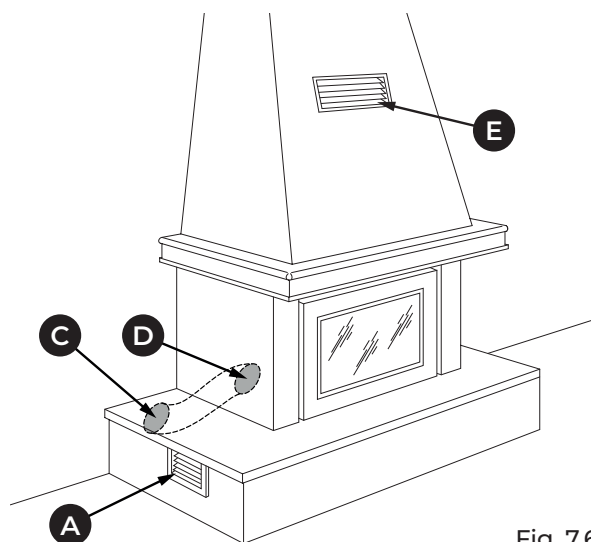

Fig. 7.6
- Fig. 7.6: external air intake (C) channelled to the fire box. Lower grate (A) supplied for the recirculation of ambient air on the cladding;